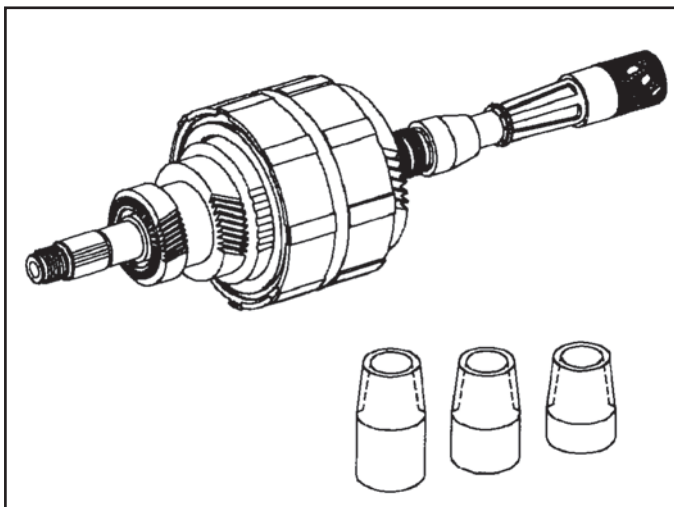

Figure 128
19. Install 3 new input shaft sealing rings (Teflon® Rings) using Saturn's input shaft seal installer kit or equivalent (See Figure 128). Saturn's seal